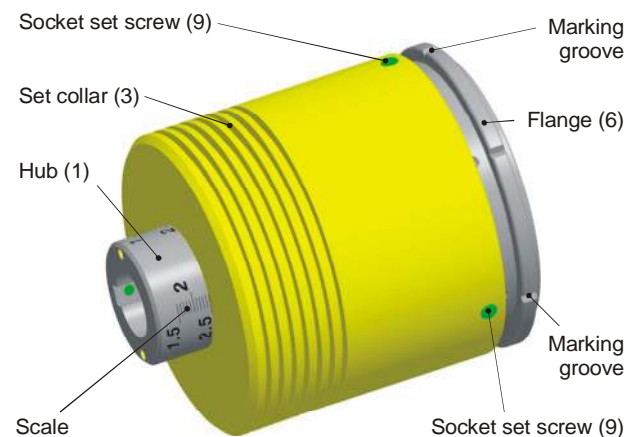

Fig. 6
The set torque on the ROBA®-contitorque can be read using a graduation scale, to be found on the hub (1) (see Fig. 6).
Procedural method (see Figs. 6 and 7):